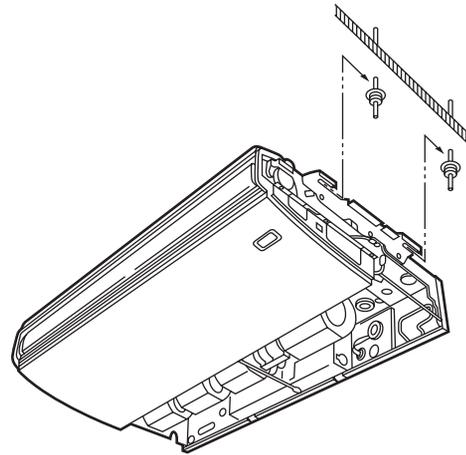

**Fig. 3-82**
(7) Suspend the indoor unit as follows.
- (a) Mount a washer and two hexagonal nuts on each suspension bolt as shown in Fig. 3-82.